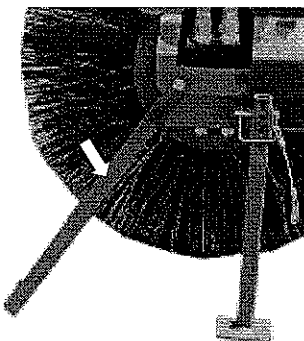

figure 44
2. On both sides, fasten a deflector arm (figure 44) to the brush frame and hood with a 3/8 x 1 1/4 in. cap screw, flat washer, lock washer and nut. Do not tighten the hardware.